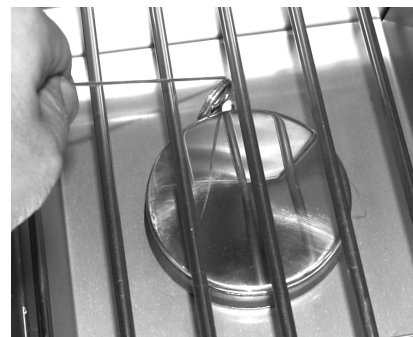

Fig. 29-2 Manual lighting
**CAUTION:** Always wait five (5) minutes for gas to clear after any unsuccessful lighting attempt.
2. Insert either a burning long-barrel butane lighter, a burning long-stem match, or a burning match held by a wire extension holder through the cooking grid opening to the burner (Fig. 29-2). Hold the flame against the edge of the burner.
4. If the burner does not light within five (5) seconds of turning the control knob, **immediately depress the knob and turn the valve to OFF**. **WAIT FIVE (5) MINUTES** before repeating steps 2 through 4 of the **MANUAL LIGHTING** instructions.